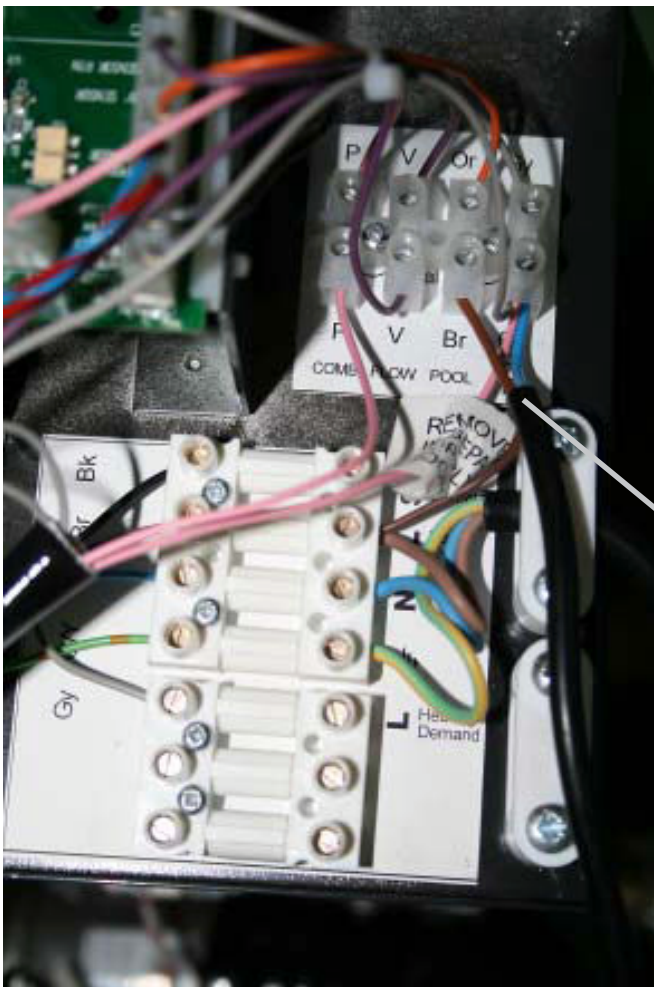

Fig. 10.2
- Choose which Heater is to be the Master and then make the rest Slaves by disconnecting their Pool Temp Sensors. Remove the leads to the Pool Temp Sensor from the four way terminal strip on the electrical chassis and tie back in a safe place. (Fig. 10.2)